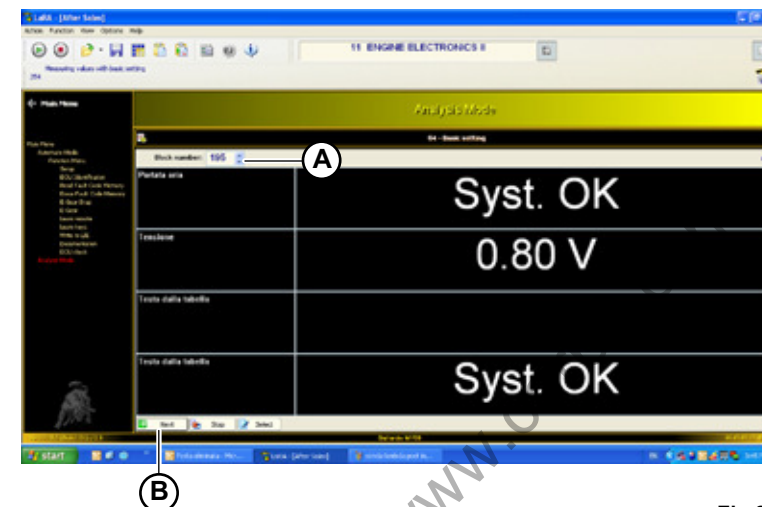

Fig.22
- Select routine 195 inside the block number (A-Fig.22).
- Start the connection () and press the start push-button (B-Fig.22).